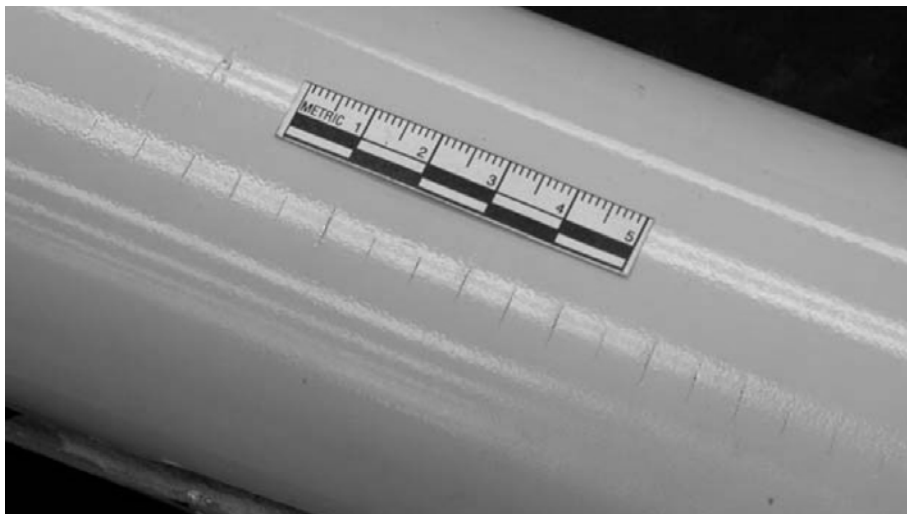

Figure 5-4: Crack pattern
- 5.3.1 Inspect all visible areas of the crosstube for cracks. The bottom side of the crosstube should be inspected for cracks using a 10X magnifying glass with weight on the landing gear. If a pattern is observed that resembles the crack pattern shown in Figure 5-4 below, the crosstube should be removed, the primer and paint should be stripped and an LPI inspection should be performed in accordance with ASTM 1417 Level 2. Cracks in the crosstube are unacceptable anywhere. Replace per item 5.3.10. If the LPI reveals that the crosstube is not cracked, it should be re-finished per item 5.3.9 and re-installed per section 32.2.